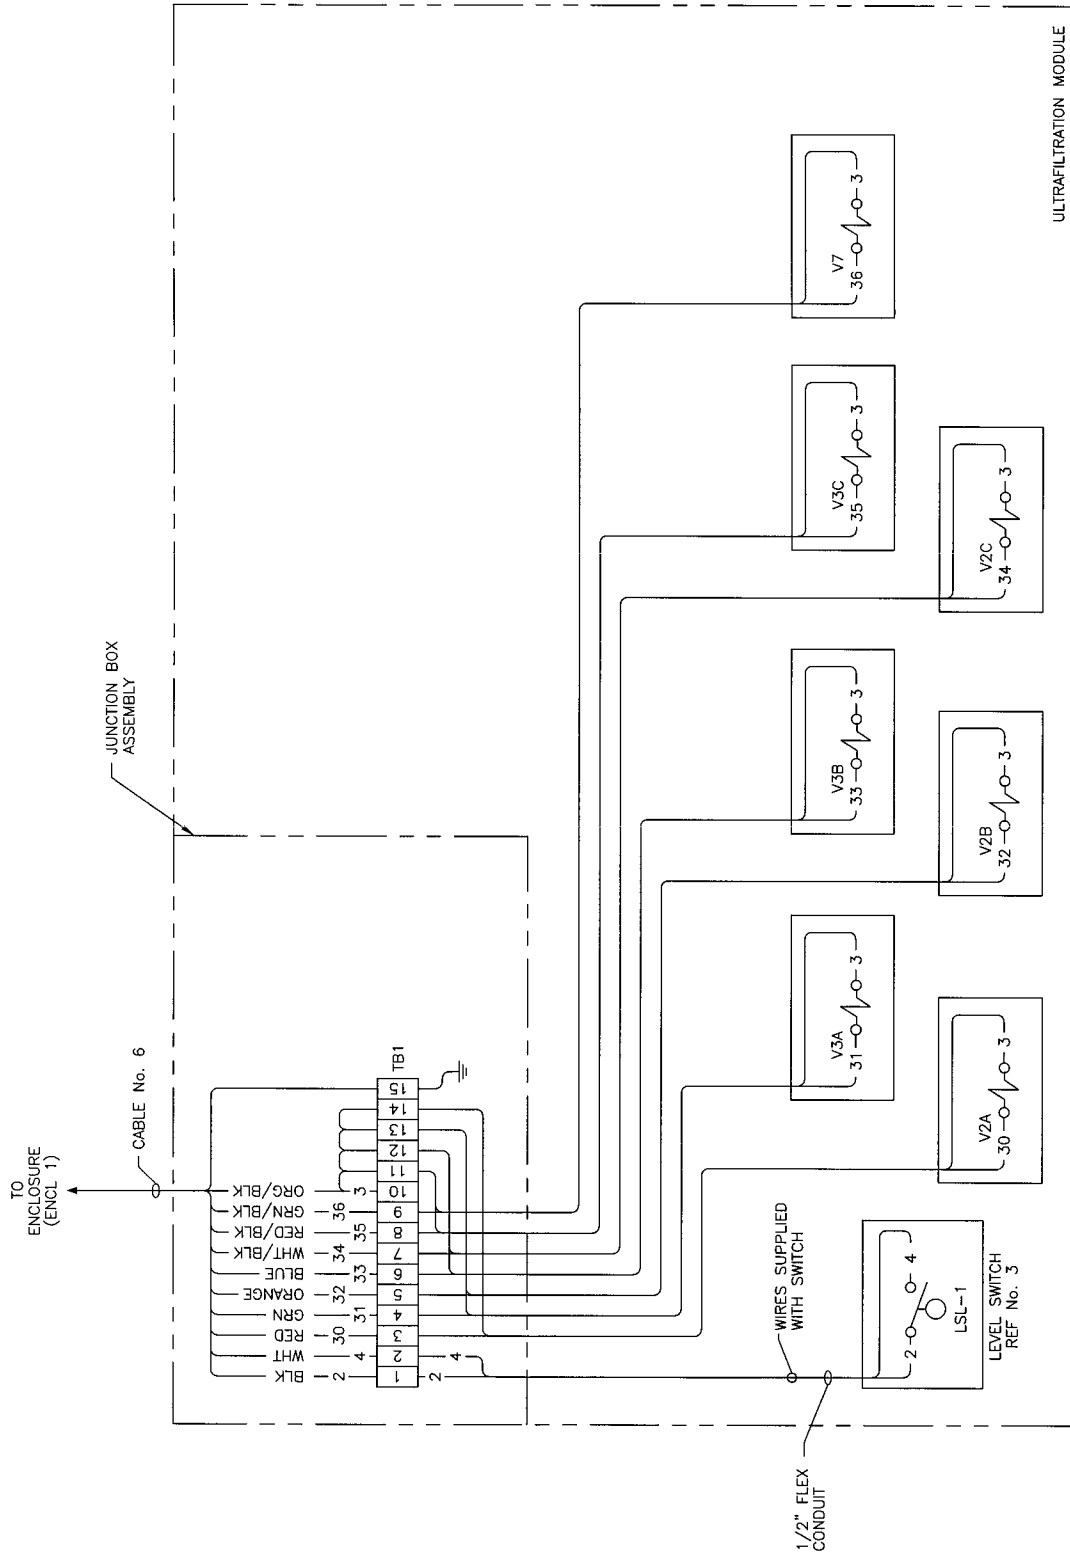

Figure 3. Ultrafiltration Module Wiring Diagram.
5. Remove all the wiring from the terminal block (6). Note the location of the wires and their numbers. See Figure 3.
6. Remove all the conduits from the nine hubs (2). Note the locations of the hubs.
7. Remove the jumper strips between terminals 10 through 14. See Figure 3.
8. Remove four lock nuts (7) from the terminal block (8) and remove the terminal block (8).
9. Remove four screws (5), eight washers (4) and four lock nuts (3) and remove the junction box from the module.
2. Mount the terminal block on the junction box and secure with four lock nuts (7).
3. Connect the jumper strip between terminal 10 and 11 and all the wiring on the terminal block (6). See Figure 3.
7. Replace the cover and fasten with four screws (8).